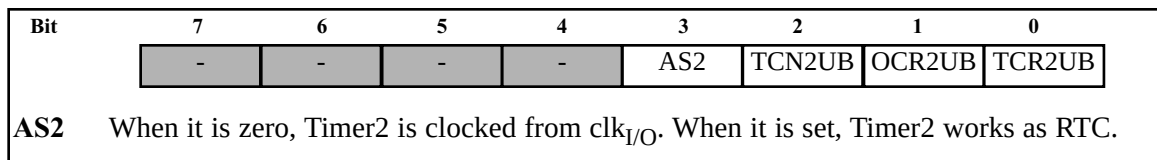

**Figure 12. ASSR (Asynchronous Status Register)**
See Figure 12. Timer2 is an 8-bit timer. Therefore it works the same way as Timer0. But there are two differences between Timer0 and Timer2:
1. Timer2 can be used as a real time counter. To do so, we should connect a crystal of 32.768 kHz to the TOSC1 and TOSC2 pins of AVR and set the AS2 bit. See Figure 12. For more information about this feature, see the AVR datasheet.